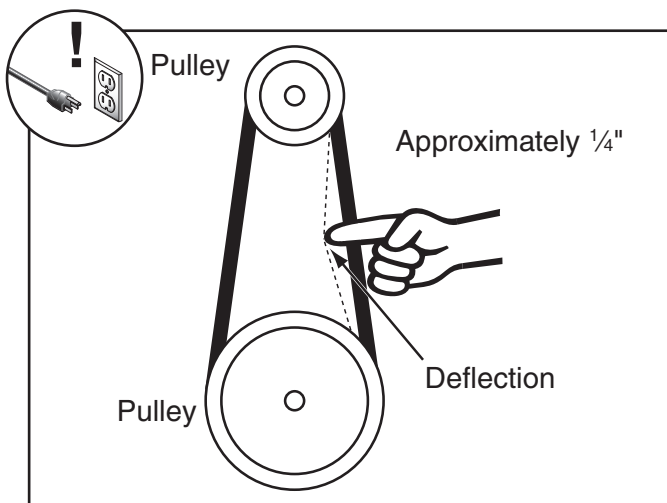

Figure 59. Checking the V-belt tension.
3. Check V-Belt deflection. The V-belt is properly tensioned if there is approximately $\frac{1}{4}$ " deflection. Deflection is checked by pushing the V-belt with moderate pressure, as shown in **Figure 59**, and noting how much it moves.